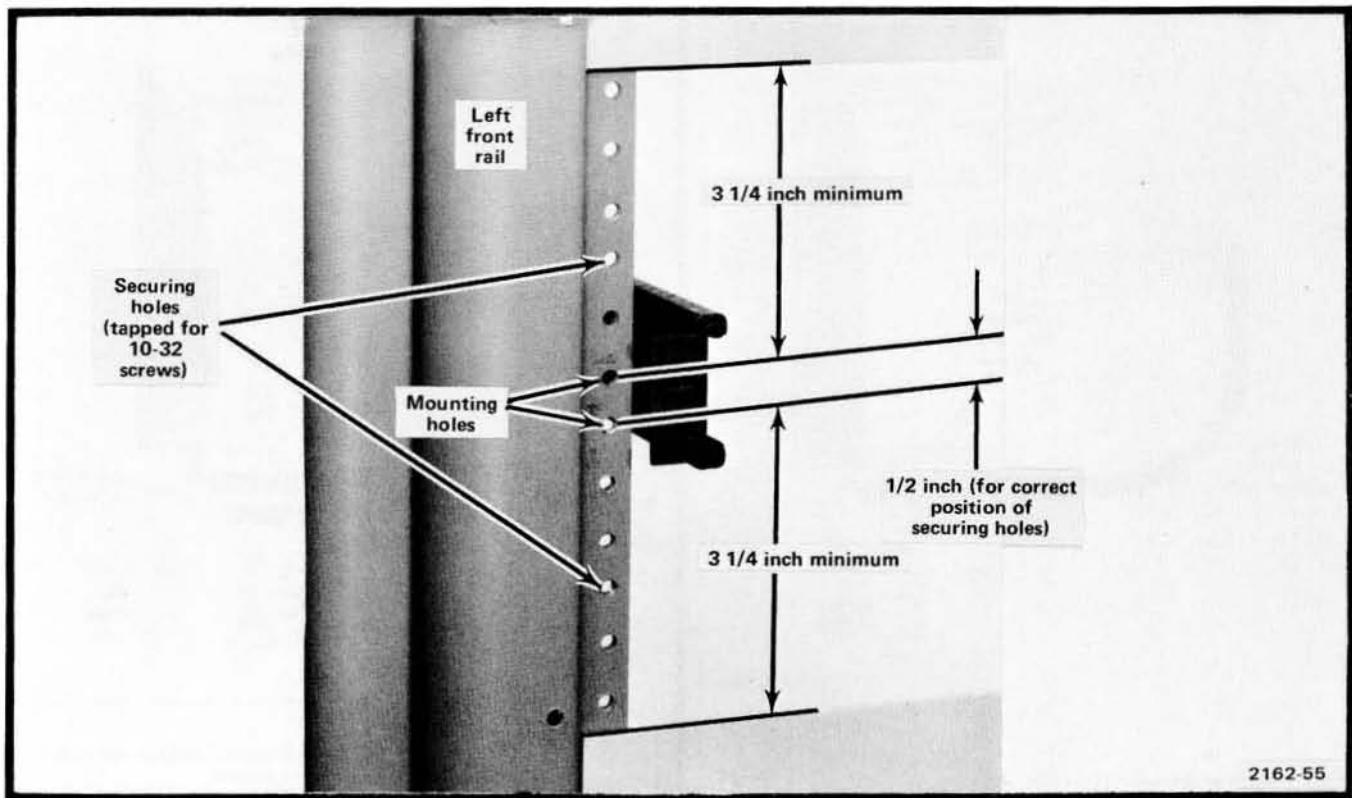

Figure 2-15. Locating the mounting holes for the left stationary section. Same dimensions apply to right stationary section.
1. Select the proper front-rail mounting holes for the stationary section using the measurements shown in Figure 2-15.